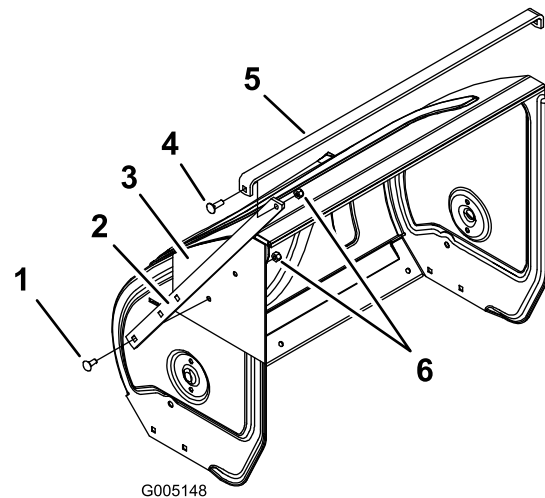

Figure 1
- Position the template (printed side out) on the right side of the auger housing aligning the dotted line (previously cut) edge with the top of the auger housing and the right side of the template with the front edge of the housing (Figure 1).